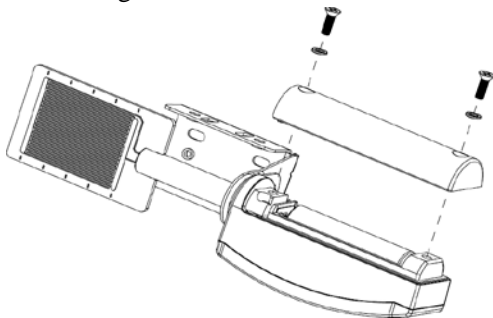

Figure 2: Battery installation
1. Remove the battery door on the back of the transmitter by removing of the screws, as shown in Figure 2: